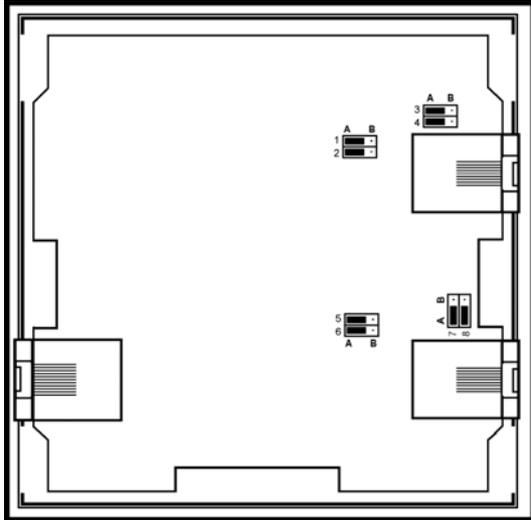

Figure 13. RS232/RS485 Jumpers, Factory Default Settings
5. Locate the jumpers shown in Figure 13, then change the jumper settings as required.